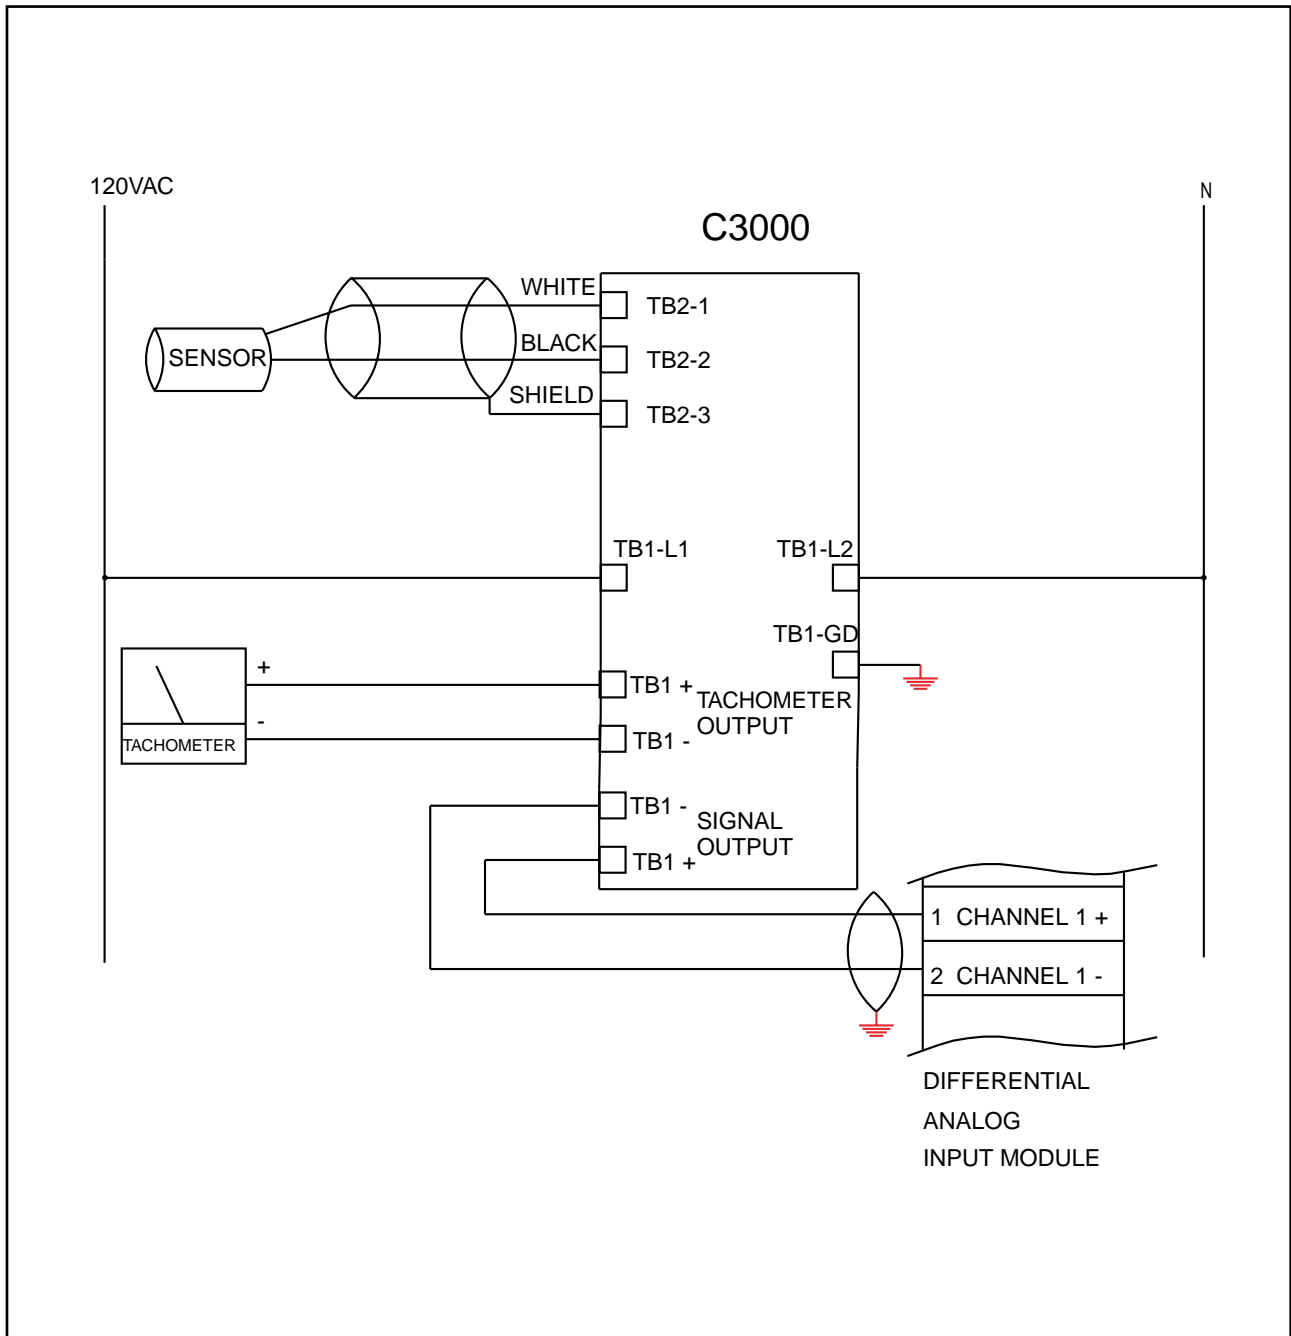

Figure 5
- 6.3 See figure 5 page 6 for typical wiring interface diagram.